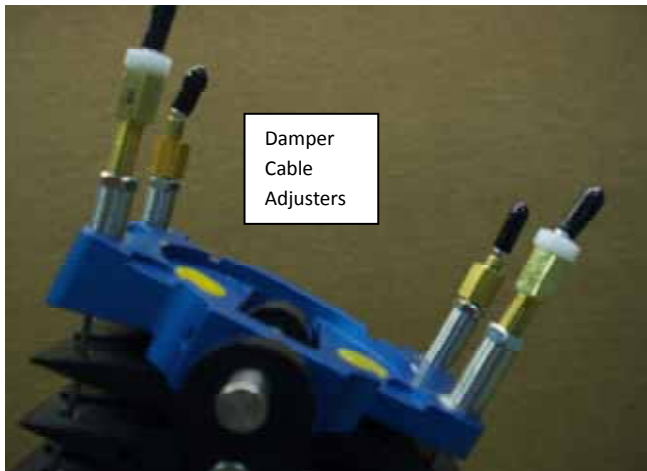

Figure 86 - Damper Cable Adjusters
1. Spine is still in position from the previous step. Adjust damper cable adjusters (Figure 86) upward until tension is added to damper cable around damper drum.